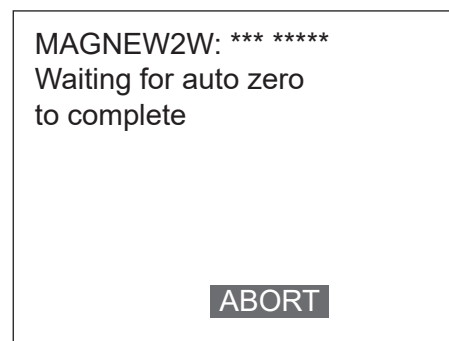

Fig. 7-12.
3. When F4 (OK) is pressed, Fig. 7-12. will be displayed and starts adjusting the zero point. By pressing F3 (ABORT) the procedure is canceled.